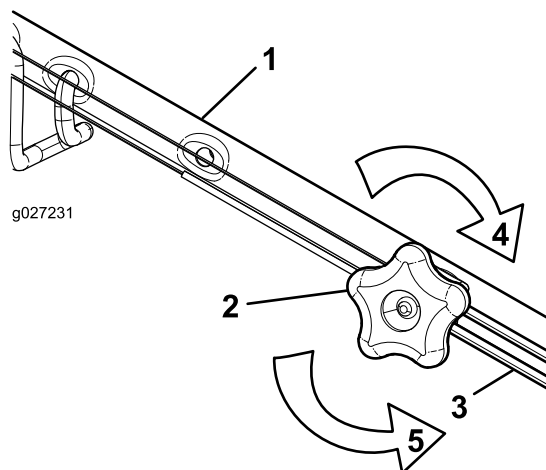

Figure 36
1. Turn the adjustment knob counterclockwise to loosen the cable adjustment (Figure 36).
2. Adjust the tension on the cable (Figure 36) by pulling it back or pushing it forward and holding that position.